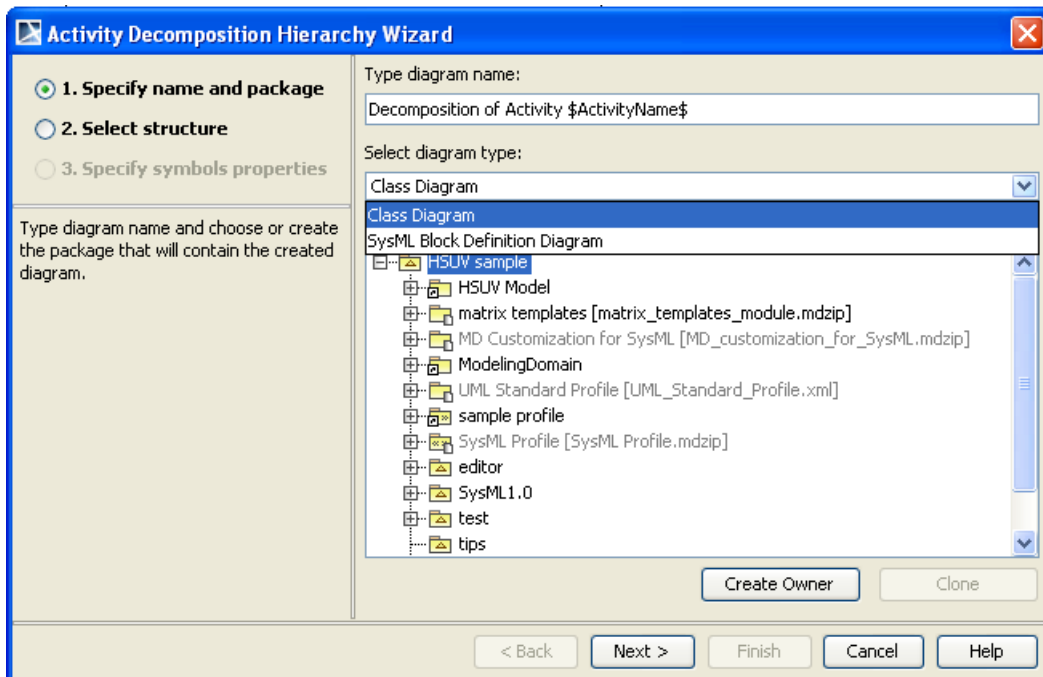

Figure 185 -- Activity Decomposition Hierarchy Wizard Dialog: Specify Name and Package
2. Follow the three steps in the **Activity Decomposition Hierarchy Wizard** dialog (Figure 185).
3. **Step 1 Specify name and package.** Enter the name, type (SysML BDD or Class Diagram), and select or create the owner of the diagram to be created (Figure 185).